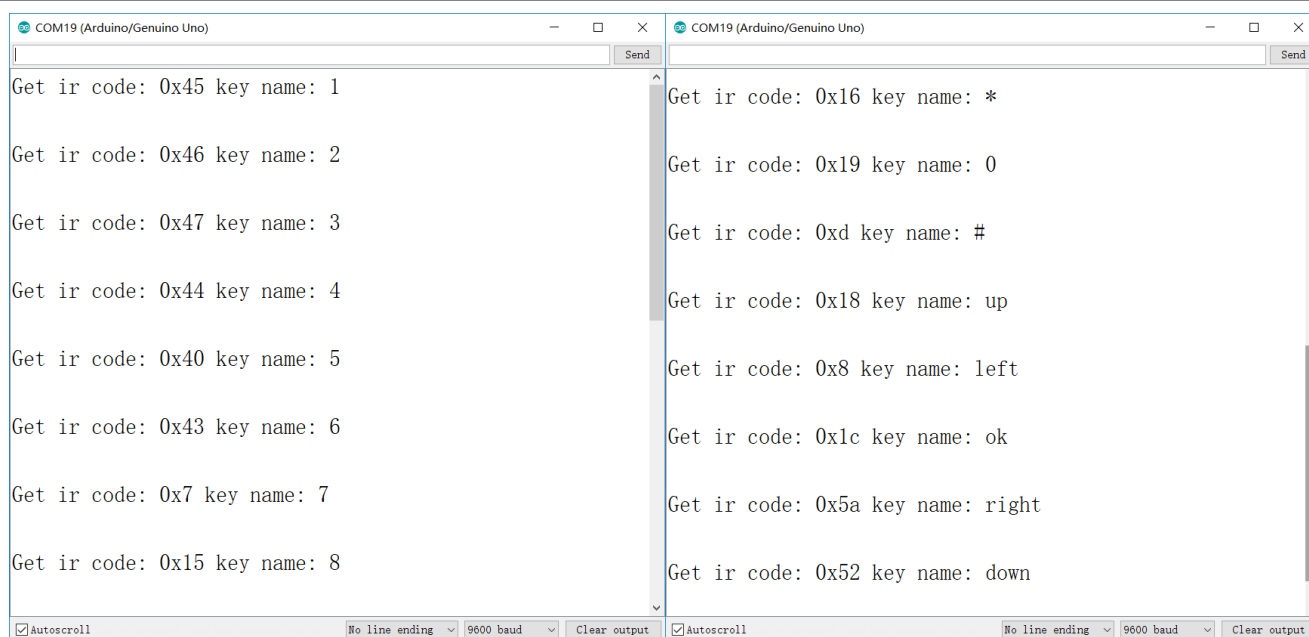

Figure .3.2.38 Remote Encoding Query
- 3, Copying the following program to IDE (you can also directly open the matching program in the CD), and downloading to the development board, pulled out the transparent plastic sheet marked as "1" in the Fig.3.2.33. Then opening the serial port monitor, observing and recording the values on it while pressing keys on the remote control towards the receiving head as shown in Fig.3.2.38.
In Figure 3.2.38, we can see two values of Ir Code "0x45" and keyname "1", where "0x45" is the code of a key of the remote controller, and "1" is the name of the key function of the remote controller.